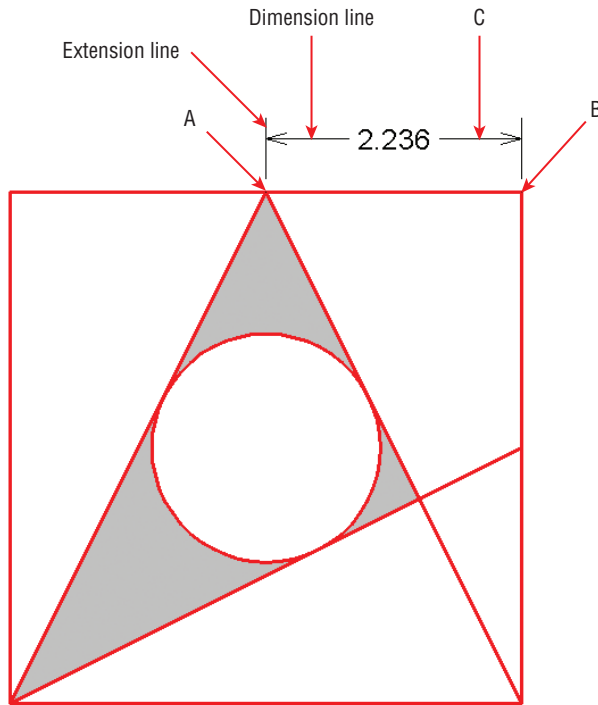

FIGURE 11.13 Creating a linear dimension by clicking three points
3.  Click the Linear dimension tool on the Annotation panel. Click points A and B to specify the first and second extension line origin points, as shown in Figure 11.13. Click point C to specify the dimension line location.